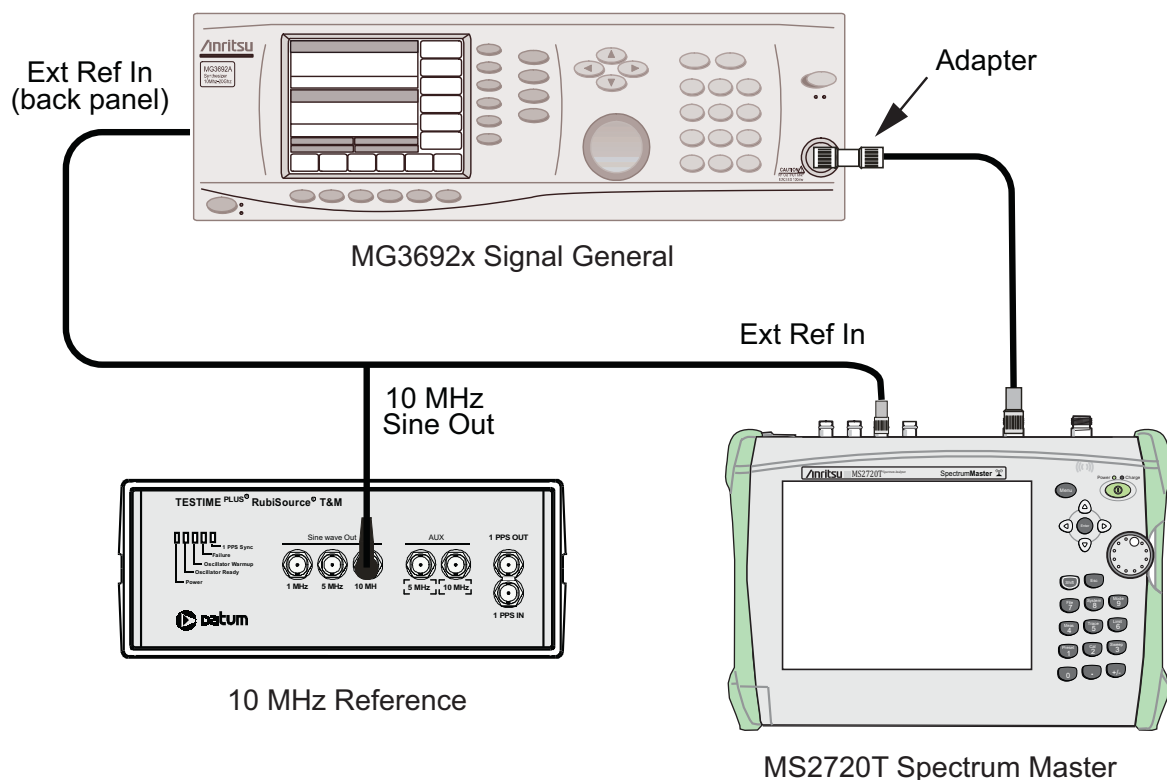

Figure 2-1. Resolution Bandwidth Accuracy Test Setup
1. Connect the external 10 MHz Reference both to the MG3692x or MG3695C Synthesized Signal Generator and to the Spectrum Master MS2720T, as shown in Figure 2-1.
2. Set the MS2720T to Spectrum Analyzer mode and then Preset the instrument. Press the **Shift** key, the **Sweep** (3) key, **Sweep Mode** submenu key and then the **Performance** submenu key.